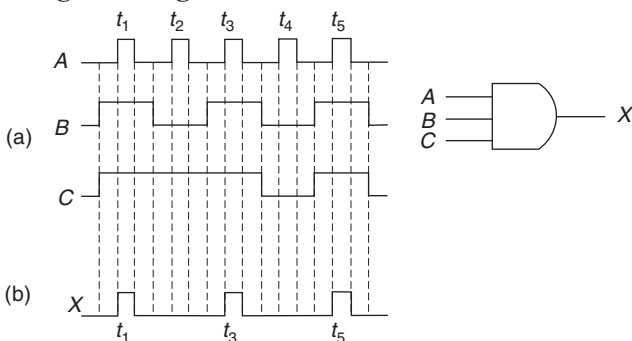

Fig. 4.8
4.10 Determine the output X for the three-input AND gate in Fig. 4.8.
The output of a three-input AND gate will be HIGH only when all three inputs are HIGH as shown in Fig. 4.8.